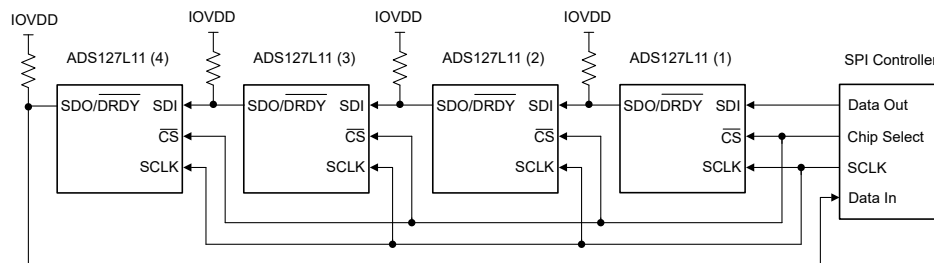
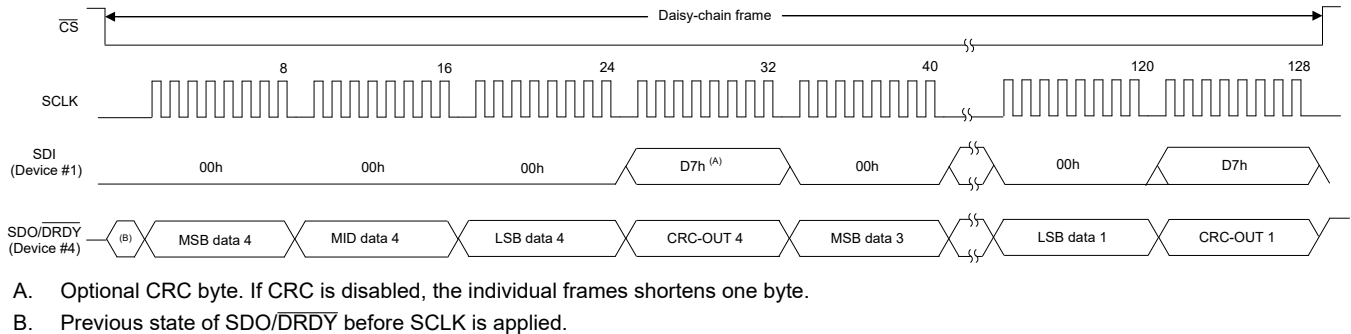

Figure 8-36. Daisy-Chain Connection
Figure 8-39. Read Conversion Data in Daisy-Chain Connection
Figure 8-36 shows four devices connected in a daisy-chain configuration. The SDI of ADS127L11 (1) connects to the host SPI data out, and SDO/DRDY of ADS127L11 (4) connects to the host SPI data input. The shift operation is simultaneous for all devices in the chain. After each ADC shifts out the conversion data, the data of SDI appears on SDO/DRDY to drive the SDI of the next device in the chain. The shift operation continues until the last device in the chain is reached. The SPI frame ends when $\overline{CS}$ is taken high, at which time the data shifted into each device is interpreted. The SDO/DRDY pin must be programmed to data output-only mode.
Figure 8-38 shows the detailed input data sequence for the daisy-chain write register operation of Figure 8-36. 40-bit frames for each ADC are shown (24-bits of data, with the STATUS and CRC bytes enabled). Command operations can be different for each ADC. The read register operation requires a second frame operation to read out the register data.
Figure 8-39 shows the clock sequence to read conversion data from the device connection provided in Figure 8-36. This example illustrates a 32-bit output frame (24-bits of data, with the CRC byte enabled). The output data of ADC (4) is first in the sequence, followed by the data of ADC (3), and so on. The total number of clocks required to shift out the data is given by the number of bits per frame × the number of devices in the chain. In this example, 32-bit output frames × four devices result in 128 total clocks.